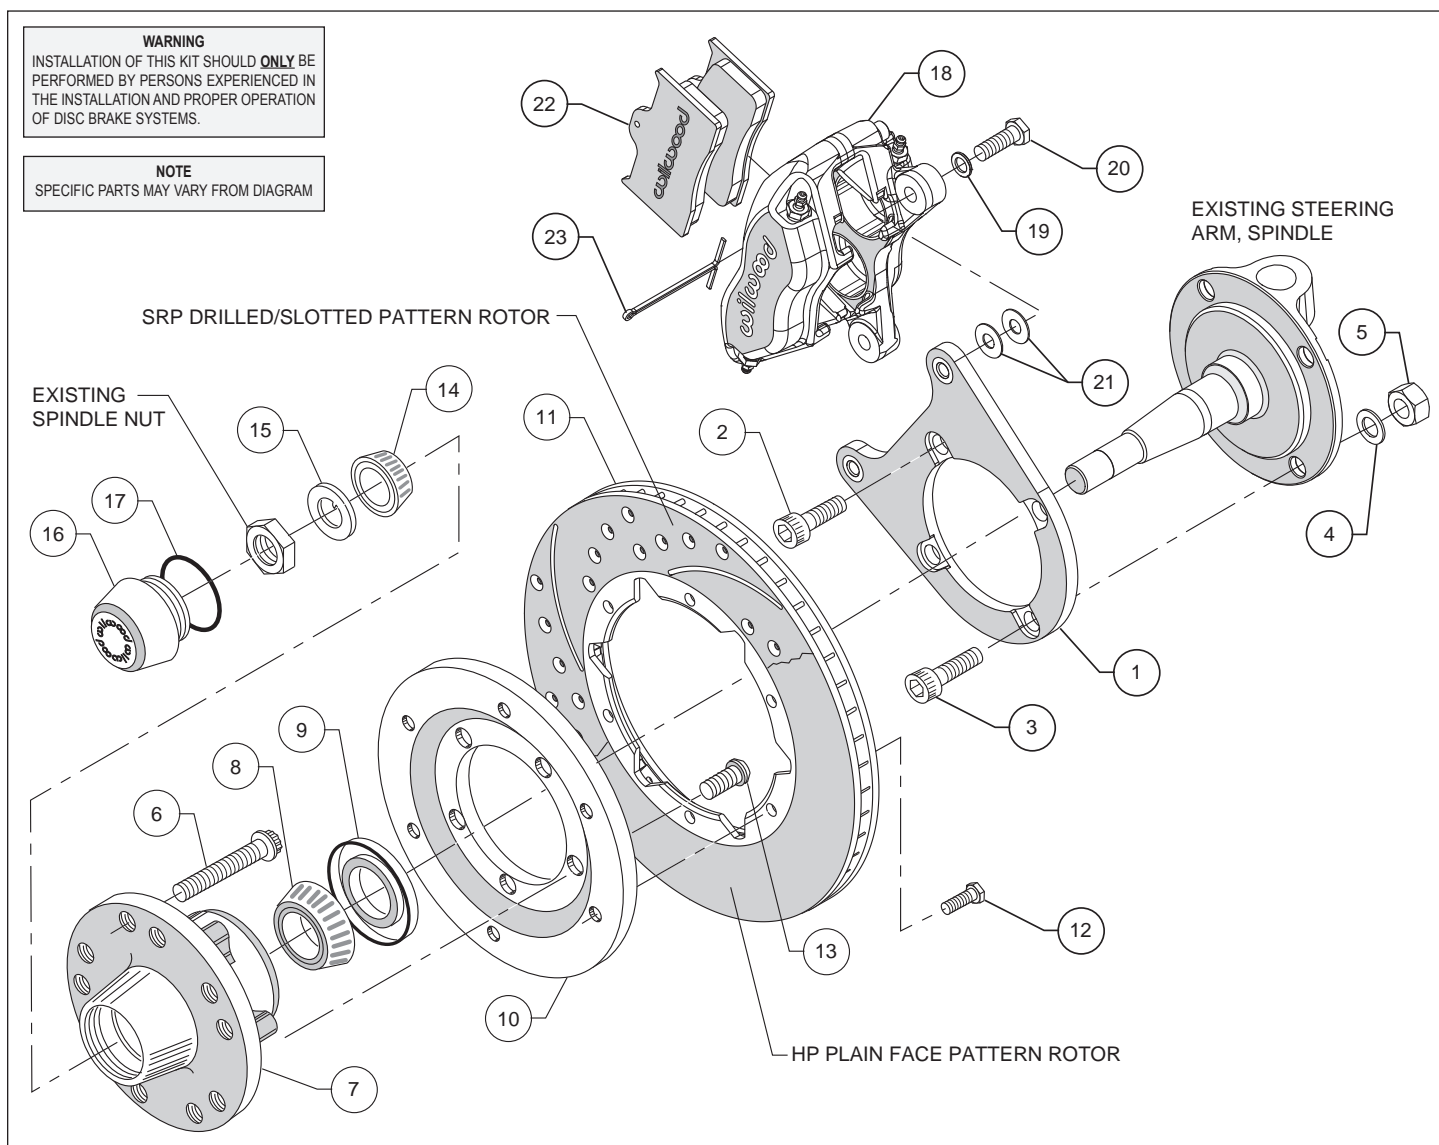
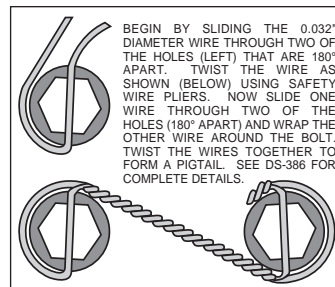
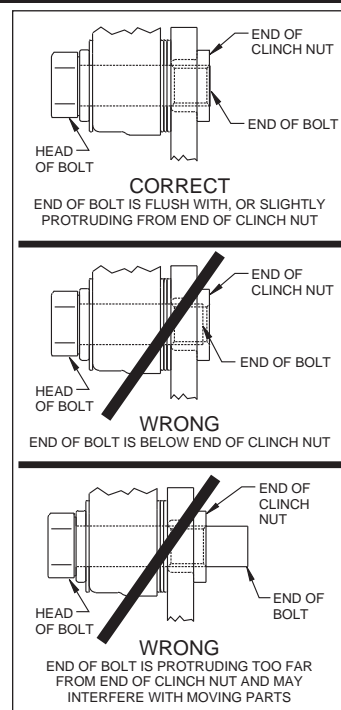

Figure 1. Typical Installation Configuration
Figure 3. Safety Wire Diagram
Figure 4. Clinch Nut Engagement Diagram
Assembly Instructions (numbers in parenthesis refer to the parts list, on the preceding page and Figure 1): **CAUTION:** *All mounting bolts must fully engage clinch nuts.* Be sure to check that all bolts are either flush or protruding through flanged side of clinch nut after shimming, Figure 4.
- Align caliper mounting bracket (1) with the corresponding holes, to the face of the spindle. Attach using bolts (2 and 3), washers (4), and nuts (5), as shown in Figure 1 and Photo 1. Temporarily tighten the mounting bolts. Ensure that the flanged heads of the clinch nuts in the bracket are facing outboard, Photo 1. **NOTE:** *The bracket must fit squarely against the mounting points on the spindle.* Inspect for interference from casting irregularities, machining ridges, burrs, etc. Remove bolts one at a time, apply red *Loctite*® 271 to threads and torque to 77 ft-lbs.
- Install the grease seal (9) by pressing into the backside of the hub (7), flush with the end of the hub, Photo 3.
- Orient the rotor (11) and the rotor adapter (10) as shown in Figure 1 and Photo 4. Attach the rotor to the adapter using bolts (12). Using an alternating sequence, apply red *Loctite*® 271 to the threads, and torque to 180 **in-lb**. Safety wire bolts (12) using standard 0.032 inch diameter stainless steel safety wire as shown in Figure 3. Refer to Wilwood's data sheet DS-386 (available at www.wilwood.com/pdf/ds386.pdf) for complete safety wire installation instructions.
- Mount the adapter/rotor assembly (10/11) to the hub (7) using bolts (13), as shown in Figure 1 and Photo 5. Using an alternating sequence, apply red *Loctite*® 271 to the threads, and torque to 55 ft-lb.
- Pack the small outer bearing cone (14) with high temperature disc brake bearing grease and install into hub (7). Slide the hub/rotor assembly onto the spindle. Secure using spindle
•**NOTE:** Please reference the caution statement at the beginning of the assembly instructions. Mount the caliper (18) onto the caliper mounting bracket (1) using bolts (20) and washers (19), as shown in Figure 1. Initially place two .032" thick shims (21) on each bolt between the caliper and the bracket, Photo 8. Temporarily tighten the mounting bolts and view the rotor (11) through the top opening of the caliper. The rotor should be centered in the caliper, Photo 9. If not, adjust by adding or subtracting shims between the bracket and the caliper. Always use the same amount of shims on each of the two mounting bolts. **NOTE:** The end of each bolt must be flush with or slightly protruding from the head of the clinch nut, as shown in Figure 4. If necessary place spare shims between washer (19) and caliper mounting ear to achieve the proper clinch nut engagement. Once the caliper alignment and clinch nut engagement are correct, remove the bolts one at a time, apply red *Loctite*® 271 to bolt threads, and torque to 40 ft-lb. Safety wire the bolts as shown in Figure 3.